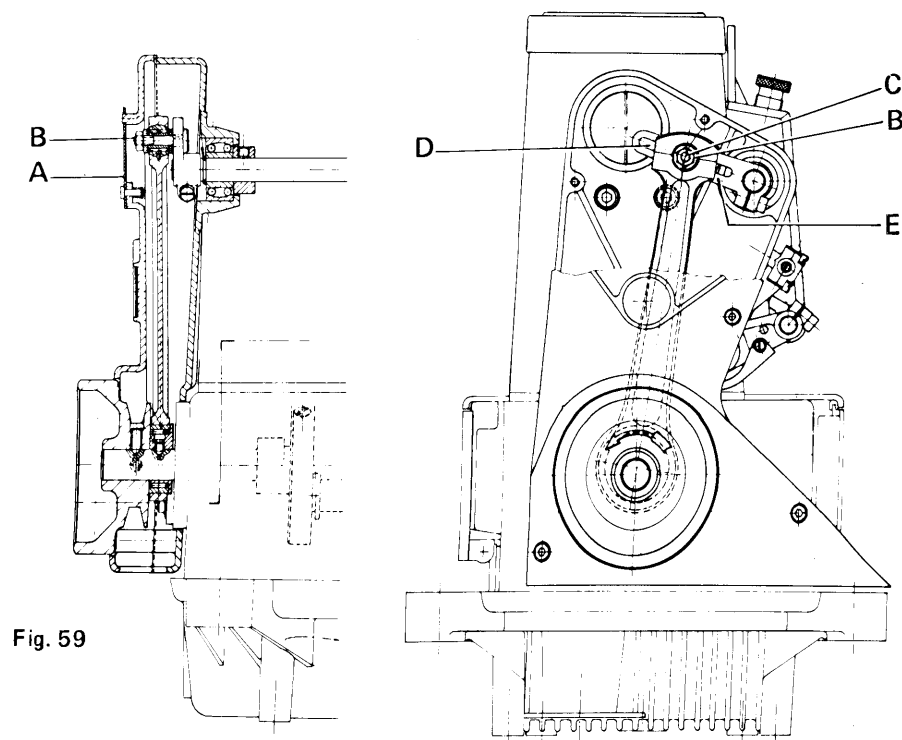

Fig. 59
**REGOLAZIONE RULLI TRASPORTATORI POSTERIORI - SUPERIORE MOTORE (fig.59)**
**ADJUSTING REAR PULLERS - TOP DRIVING (fig.59)**